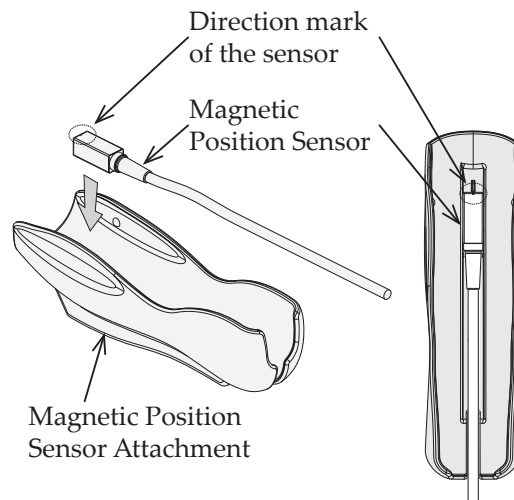

Figure 8 How to attach Magnetic Position Sensor
- (1) Confirm that the magnetic position sensor attachment is sterilized or disinfected.
- (2) Insert the magnetic position sensor into the magnetic position sensor attachment with the correct direction as shown in Figure 8.